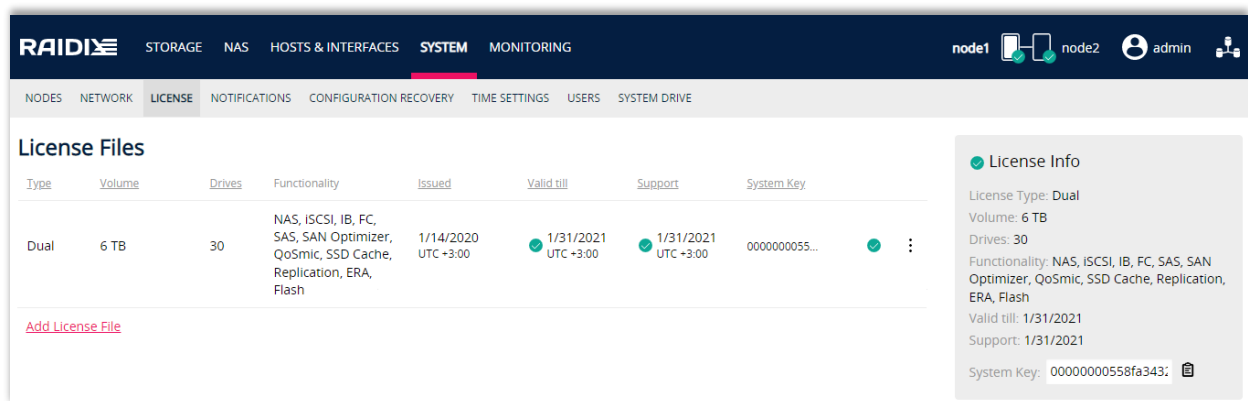

Figure 31. License page after dual-controller license file was added
8. Information on the uploaded license file will show in the *License Files* section (Figure 31).